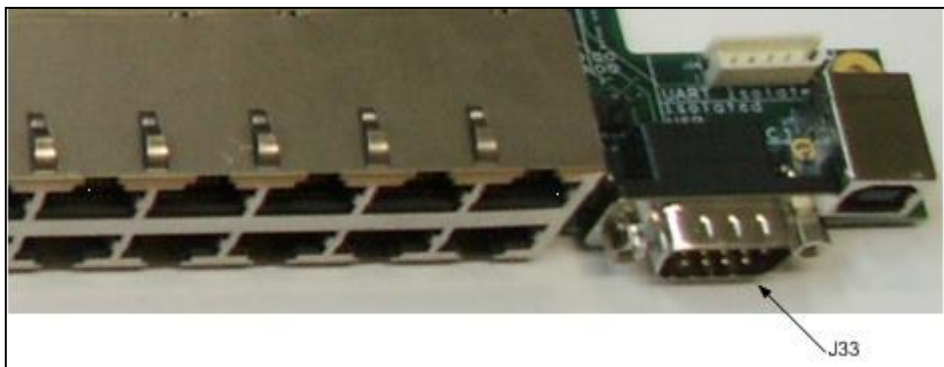

Figure 14: Isolated RS232
7. Isolated RS232 (see Figure 14)